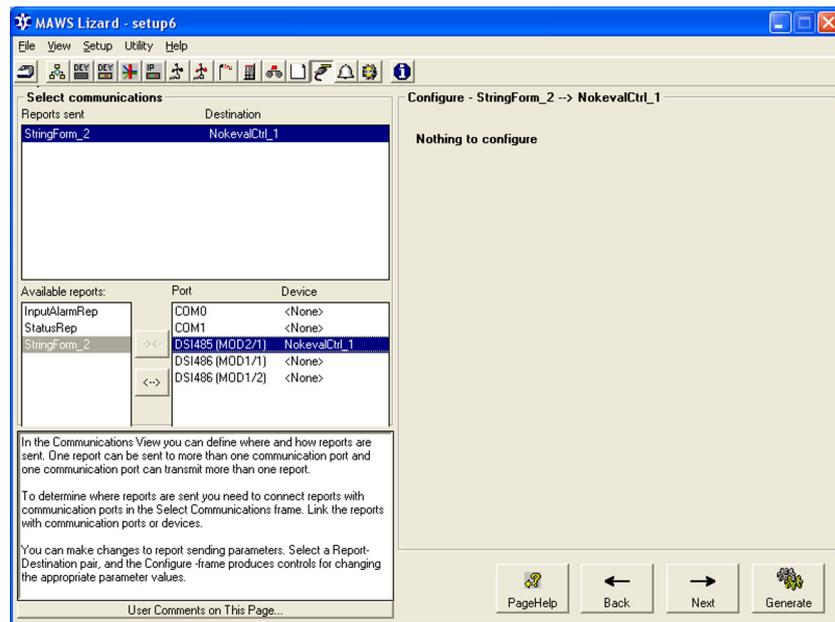

Figure 22 Communications View: Connecting the Report to Nokeval 7470
5. Link the reports to the Nokeval converter as shown in Figure 22 on page 58.